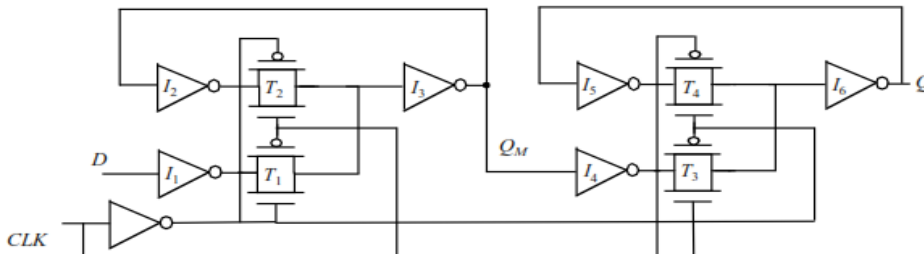

Figure 3.10 Transistor-level implementation of a master-slave positive edge-triggered register using multiplexers.
- A complete transistor level implementation of the master-slave positive edge-triggered register is shown in Figure 3.10.